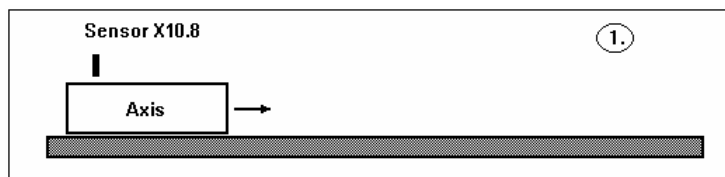

Figure 3
2. At reference modes with reference sensor, the search for reference is started in the opposite direction, if the reference sensor is already active at the start of the search for reference (see figure 3).